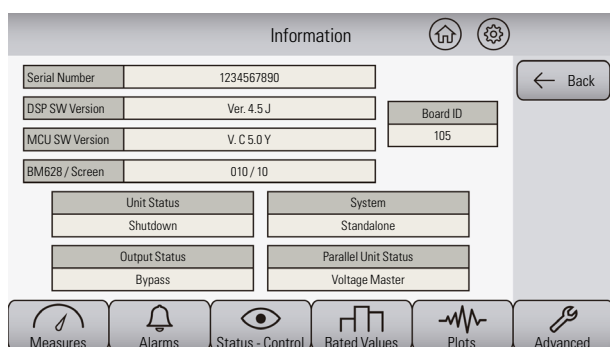

Fig. 40a. Screen displayed when touching over.
- ❑ Press over the  icon located in the side menu of the main selected UPS screen. A screen like Fig. 40a will be displayed, where the shown information can differ.
- ❑ The information screen will be displayed. In this screen the UPS hierarchy can be checked under the statement «Parallel Unit Status» and in Fig. 40a it is shown as a «Parallel Master Voltage» example. It is necessary to go to the information menu of the touch screen of each UPS, in order to check its hierarchy as regards to the rest of the system, which is dynamic depending on the status of the rest of the equipments: